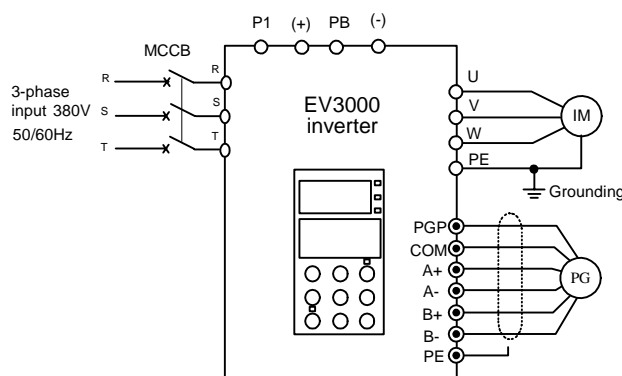

Figure 4-16 Basic wiring diagram 1
1) According to the cable connection of Figure 4-16, check to confirm the cable connection is correct, switch on the MCCB and supply power to the inverter.
- 1) According to the wiring of Figure 4-16, check to confirm the correct cable connection, switch on the MCCB to supply power to the inverter;